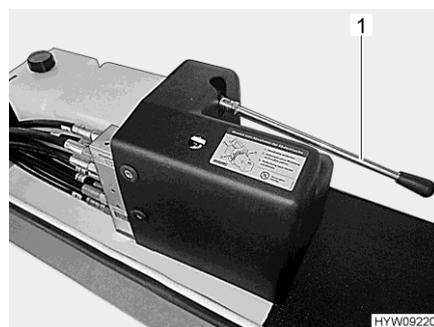

Fig. 42 Lever (emergency release)
- Retract the steady leg with the hand pump. To do this, pump with the lever (Fig. 42,1) until the steady leg is retracted.